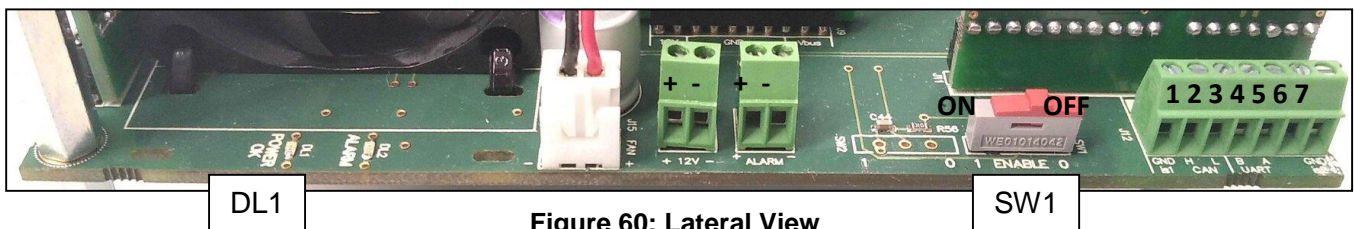

Figure 60: Lateral View
3. Connect the communications cables (optional) (see Figure 60).